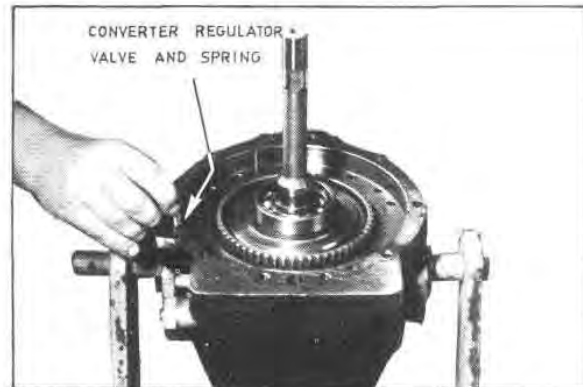

Fig. G75 — Assembling the Converter Regulator Valve and Spring
39. Assemble the converter regulator valve spring and valve into the bore provided in the case at the lower right front (Figure G75). Assemble the hollow portion of the valve over the valve spring. The valve should move freely in the bore.